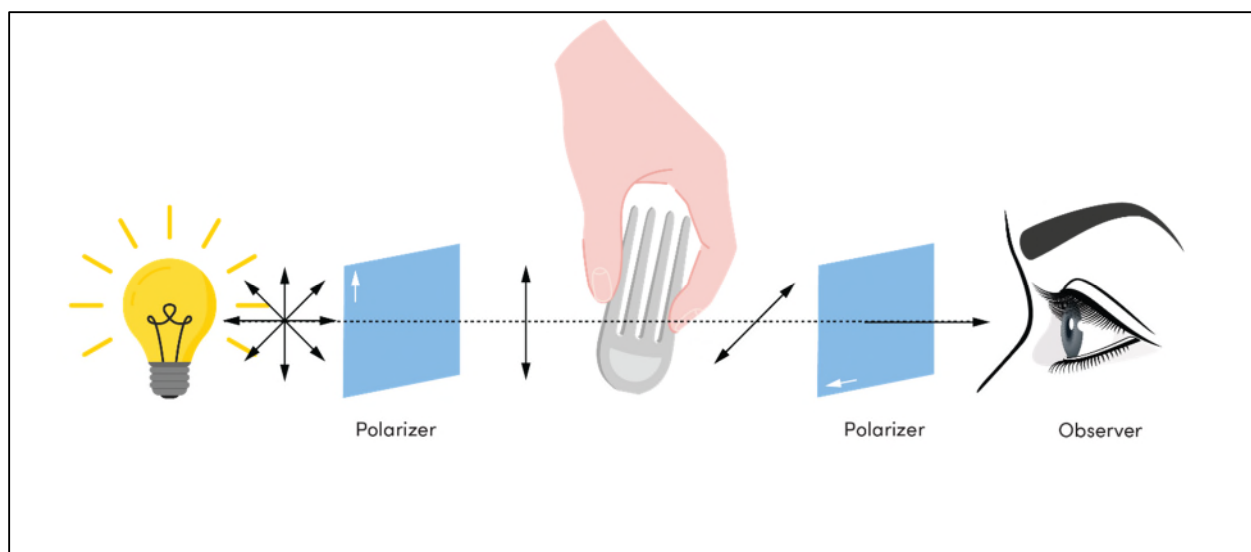

Figure 5. Color chart for polariscopic observations of optical retardation induced by stress.
- Ask the students to evaluate the internal stresses in the plastic vial and the fork. By squeezing the tines of the fork, the students may be able to induce and visualize additional stresses. (*See Fig. 5*)